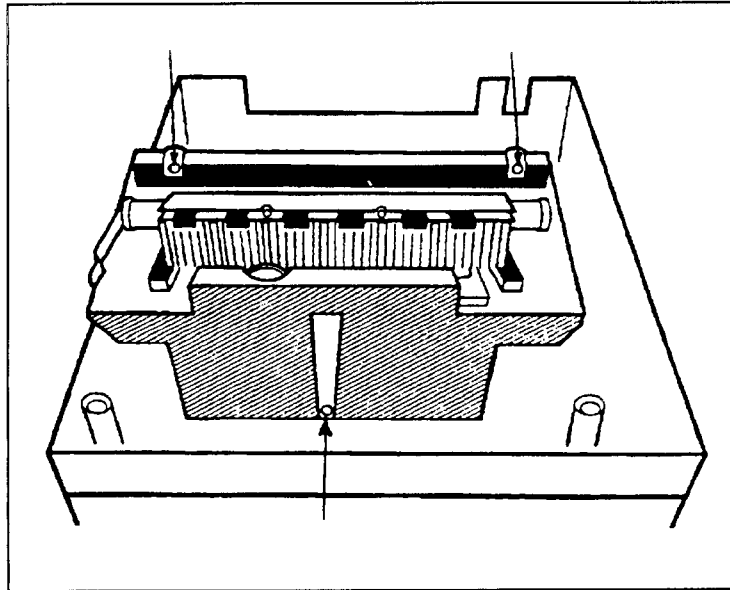

Figure 6-21. Print Mechanism (Top View)
- f. Using a 5mm internal hexagonal driver (allen wrench), remove the three screws, lock washers, and flat washers securing the print mechanism to the printer base (see Figure 6-21).
- i. Remove the three 5 mm hexagonal screws which secure the print mechanism to the base of the printer (see Figure 6-21), and remove the print mechanism from the printer.
- f. Install the print mechanism into the base of the printer (see Figure 6-21).
- d. Remove the three bolts from the print mechanism (see Figure 6-21). (The print mechanism is not going to be removed from the printer, only tilted in a later step).